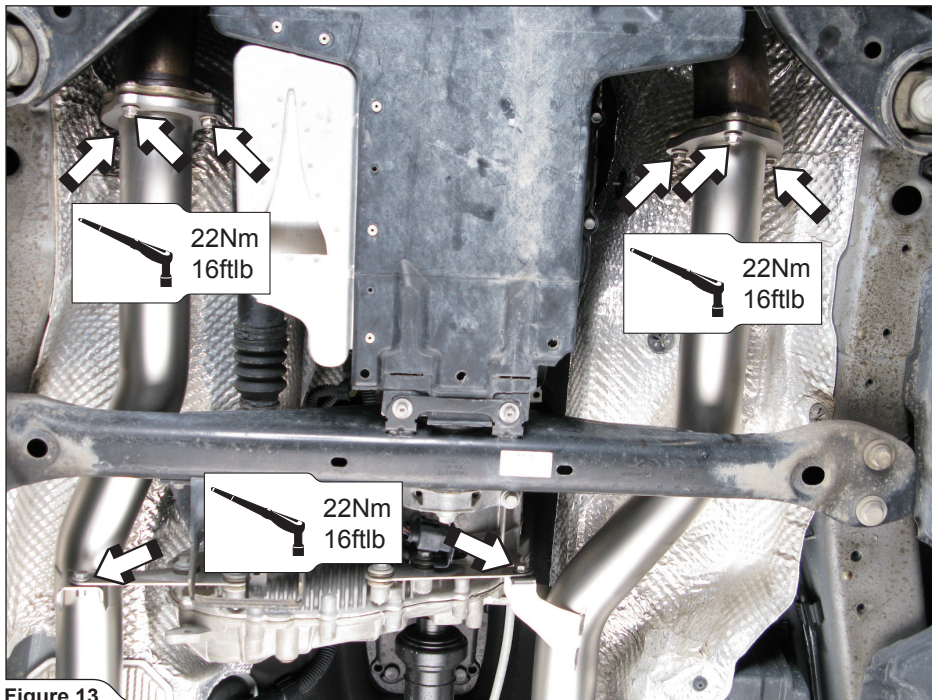

Figure 13
13. **For Optional Front Link Pipe Set only:** tighten the front link pipes' flanges and brackets to the specified torque (**Figure 13**).